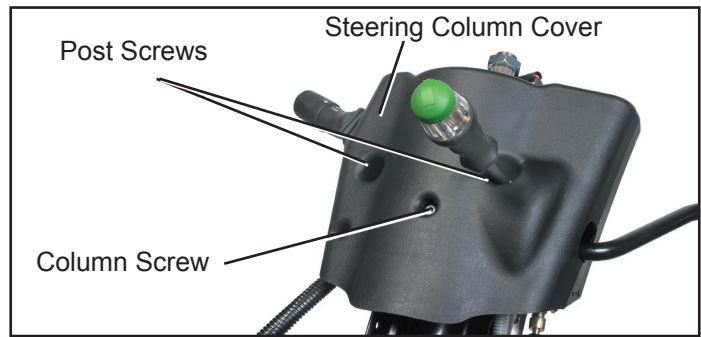

Figure 2 - Removing column and post screws (bottom)
1. As shown in Figure 2, remove the steering column covers by removing the two post screws and one column screw with a T-30 torx wrench. Separate the bottom and top cover halves. A wiring harness is attached to the bottom cover half and will prevent the cover from being removed from the steering column area.